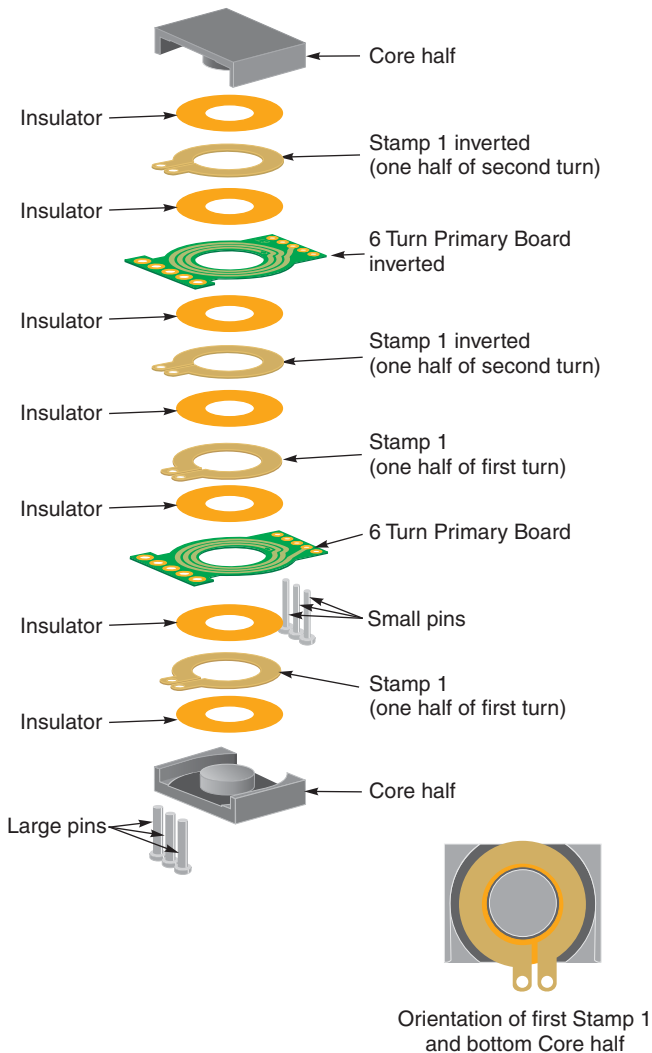

Figure 5. Exploded view of the Sample Transformer
An exploded view of the sample transformer is shown in Figure 5. The sample transformer provided with the kit consists of the following parts:
Refer to Figure 5 and use the following procedure to assemble the sample transformer.
3. Orient a Stamp 1 so that the terminals extend out of the core as shown in the detail in Figure 5. Make sure the terminal holes will align with pins 7 and 8 of the Primary Board.